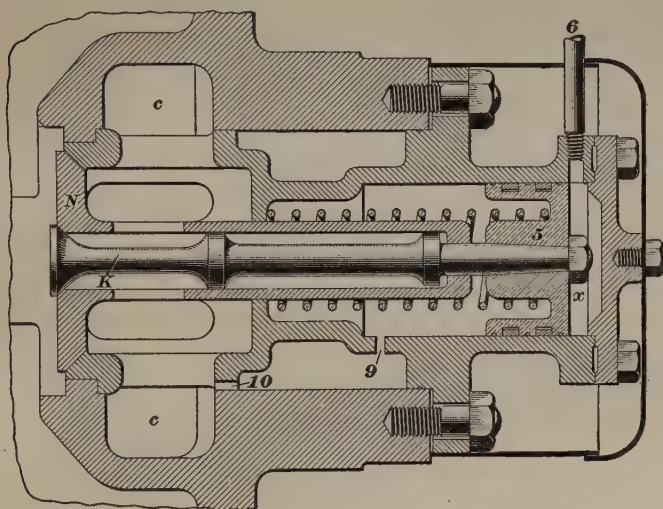

FIG. 21
38. Emergency Exhaust Valve.—The emergency exhaust valve, Fig. 21, really consists of two valves *N*, *K* operated by the piston 5. The chamber *x* back of the piston is connected, by means of a pipe 6, to an operating valve conveniently situated in the engine cab; the operating valve is very similar to those already described, only in place of being piped for steam to the boiler it is piped for air to the engineer's brake valve. Sometimes, however, it is piped to both